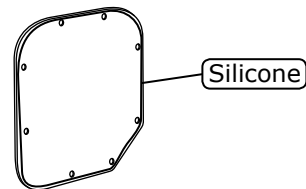

Figure 5a
2. Apply a 1/4" bead of silicone around the mating surface of the kick panel fresh air cap as shown in Figure 5a, below.